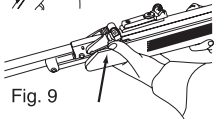

Fig. 9
- Lift up the breech block from the handle. (Fig. 9)